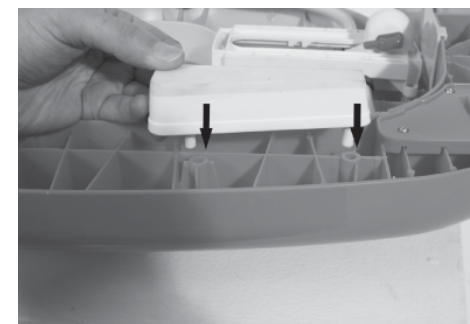

Fig. 4
2. Place the stop function block over the holes and tap into position. Fig. 4